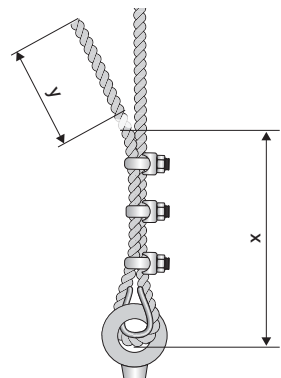

Fig. 30b: Drawing of the end of the rope for type 36, 37
3. At the rope electrode, it is necessary to loosen three fastening screws on the ballast and to pull out the end of the cable, see fig. 30b. Make sure that the cable length is correct after shortening – the cable is suspended in the ballast up to a distance of approximately 60 mm. Ideally, shorten the cable using diagonal cutting pliers. Be careful to prevent the end of the cable from fraying.